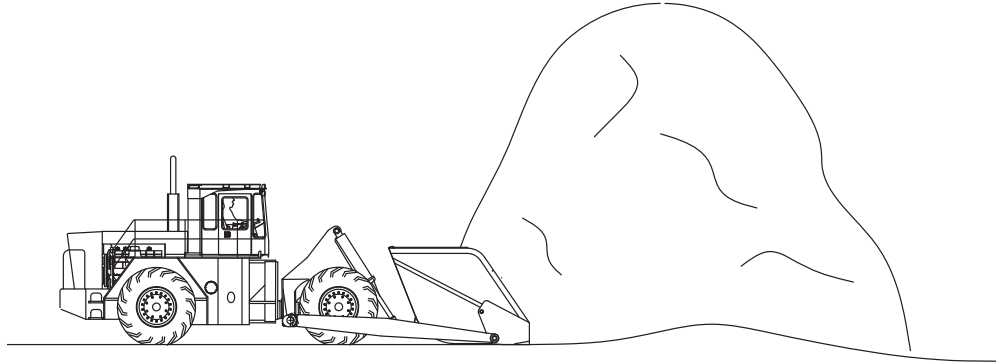

Figure 5-16
3. Cut down the hump in dozing path. If you have a build up or mound of material in the path in which you are dozing, you will need to cut the mound out or you will continue to loose material when dozing over it. Thus increasing the size of the mound with each pass (See Figure 5-16).